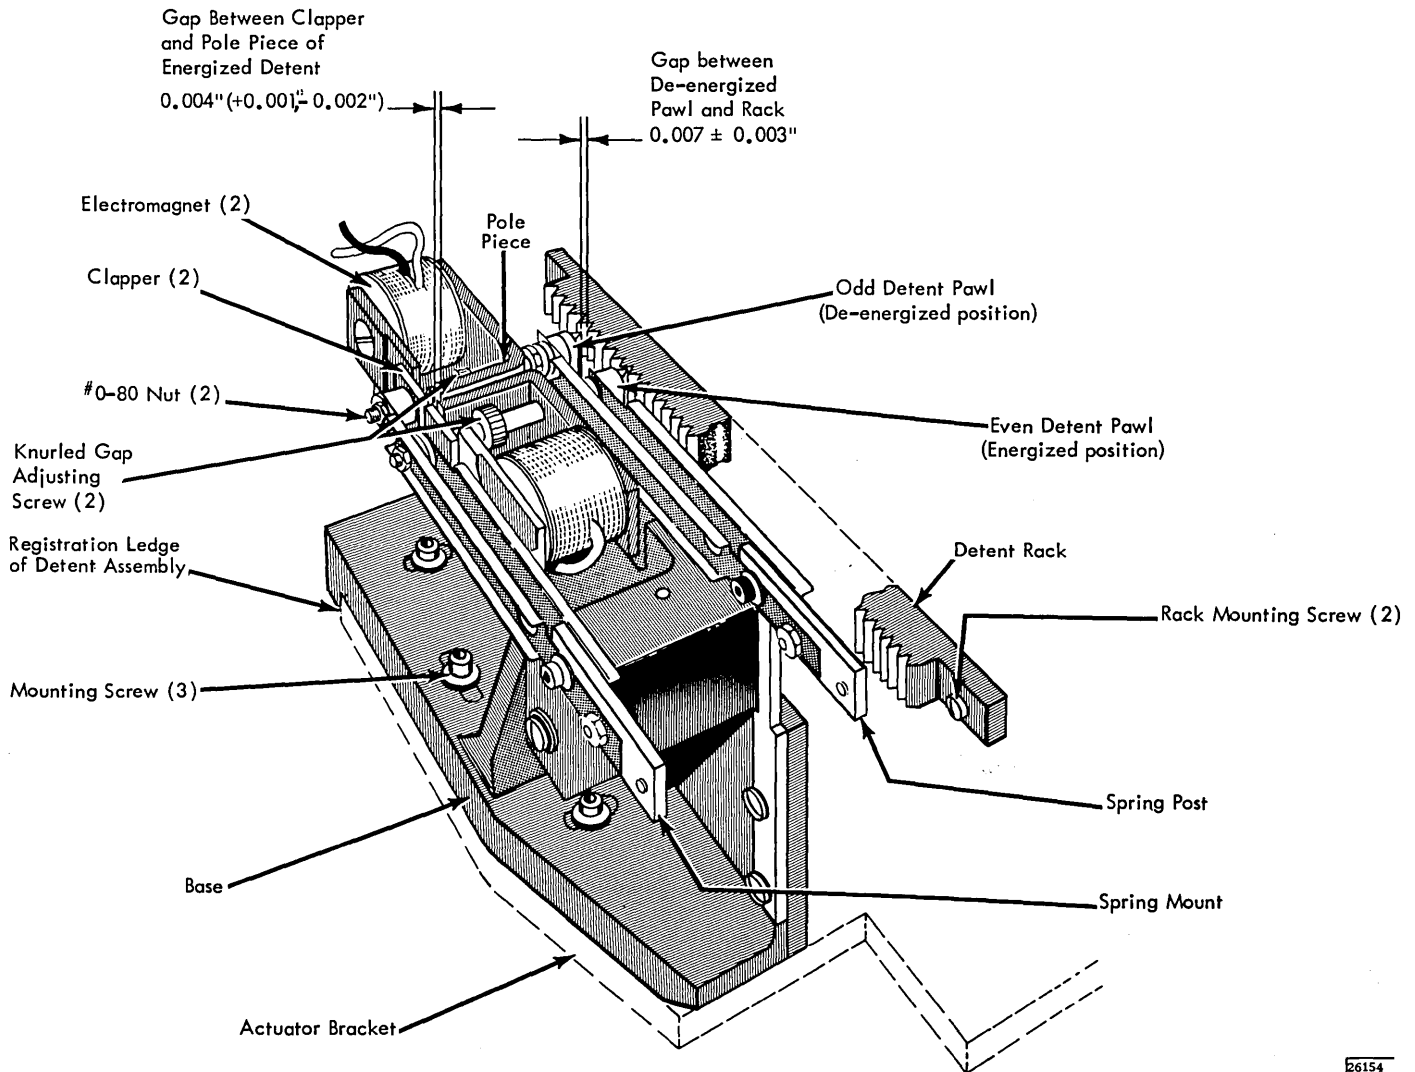

Figure 7-4. Detent Assembly, Adjustment Clearance
7.7.2 Detent Assembly Adjustment (Figure 7-4)
3. Push registration ledge of detent assembly against the corresponding edge of carriage mounting base (Figure 7-4). Slide detent assembly along this edge until a gap of 0.007 (± 0.003) inch is formed between either the odd or even pawl and a detent crown tooth of the detent rack.
9. Use a fine blade screwdriver to turn the knurled (serrated) portion of the gap-adjuster nut (Figure 7-4) until an air gap between the clapper and pole pieces is within 0.004 (+0.001, -0.002) inch width. Use non-magnetic shims to check this air gap measurement. Do not apply excessive force on the adjustment because too much force will cause deflection of the spring supported clappers resulting in an uneven gap. When the proper gap is achieved, tighten the #0-80 nut by applying 15 to 20 inch-oz of torque.